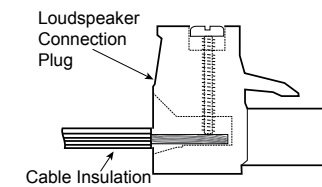

Figure 4
- With the Hookup Cable insulation flush with the Loudspeaker Connection Plug opening, now rotate the two top screws to secure the Hookup Cable with the plug. Refer to figure 4.